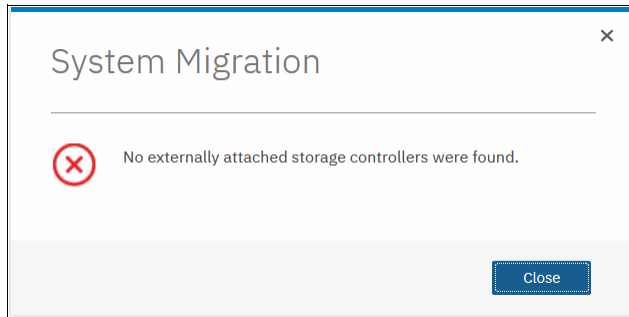

Figure 7-13 Error message that is displayed when no external storage is found
- ▶ You might receive a warning message as shown in Figure 7-13 that indicates that no externally attached storage controllers were found if you did not configure your zoning correctly (or if the layer was incorrectly set if another Storwize system is attached). Click **Close** and correct the problem before you start the migration wizard again.